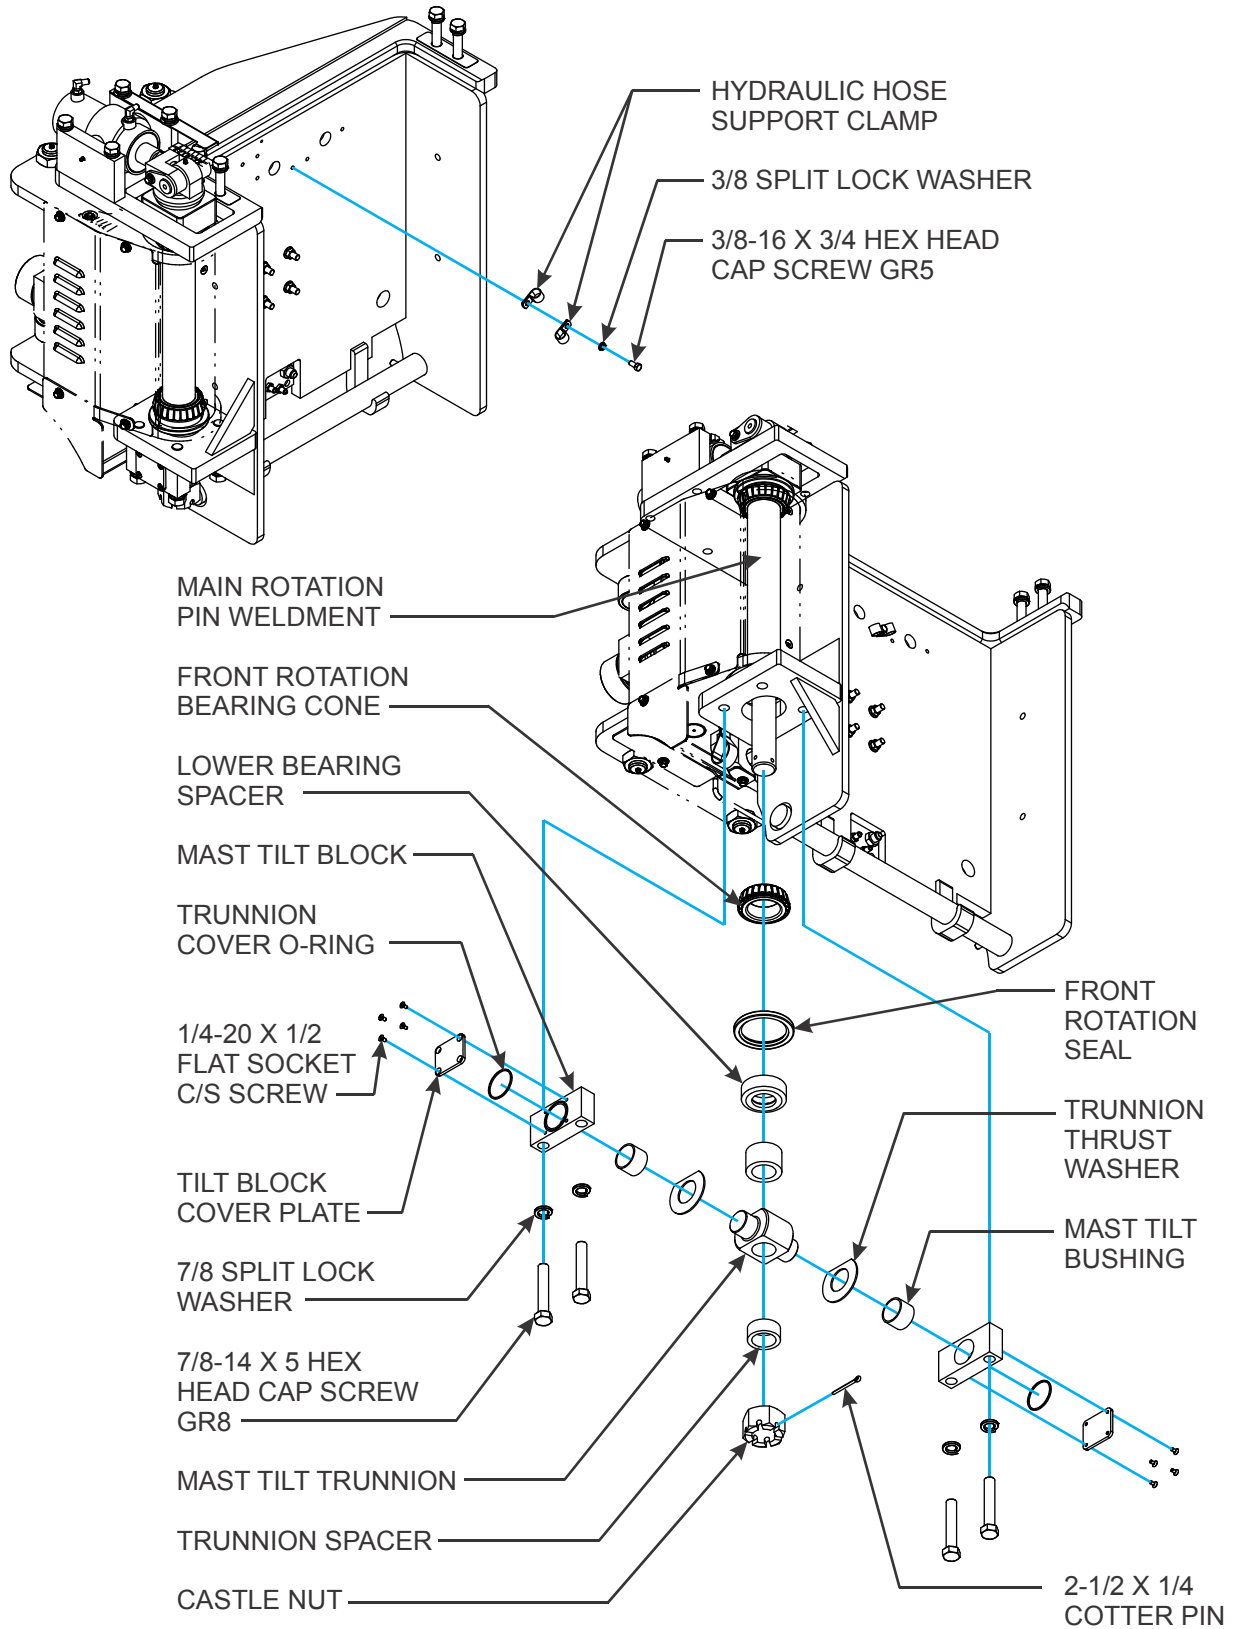

Figure 3-5: Masthead Assembly (3 of 3)
12. Remove cotter pin and castle nut from main rotation pin weldment (See Figure 3-5).